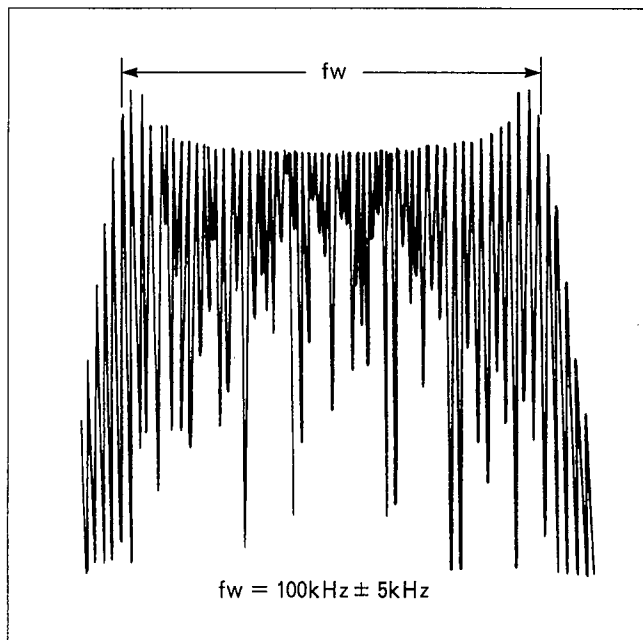

Figure E53
3. Adjust VR41001 (CH1) so that the width of the "fw" portion becomes 100KHz \pm 5KHz as shown in Figure E53.
5. Adjust VR41005 (CH2) so that the width of the "fw" portion becomes 100KHz \pm 5KHz as shown in Figure E53.